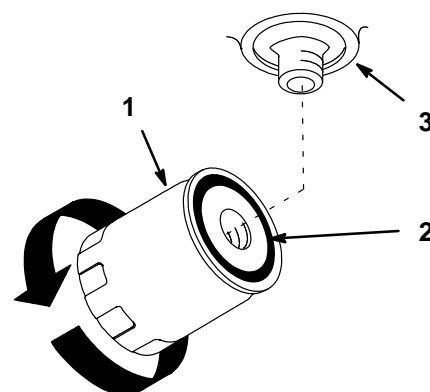

Figure 36
7. When fluid overflows filter turn the oil filter clockwise until the rubber gasket contacts the filter adapter, then tighten the filter an additional 1/2 turn (Fig. 36).
4. Apply a thin coat hydro fluid to the rubber gasket on the replacement filter (Fig. 36).